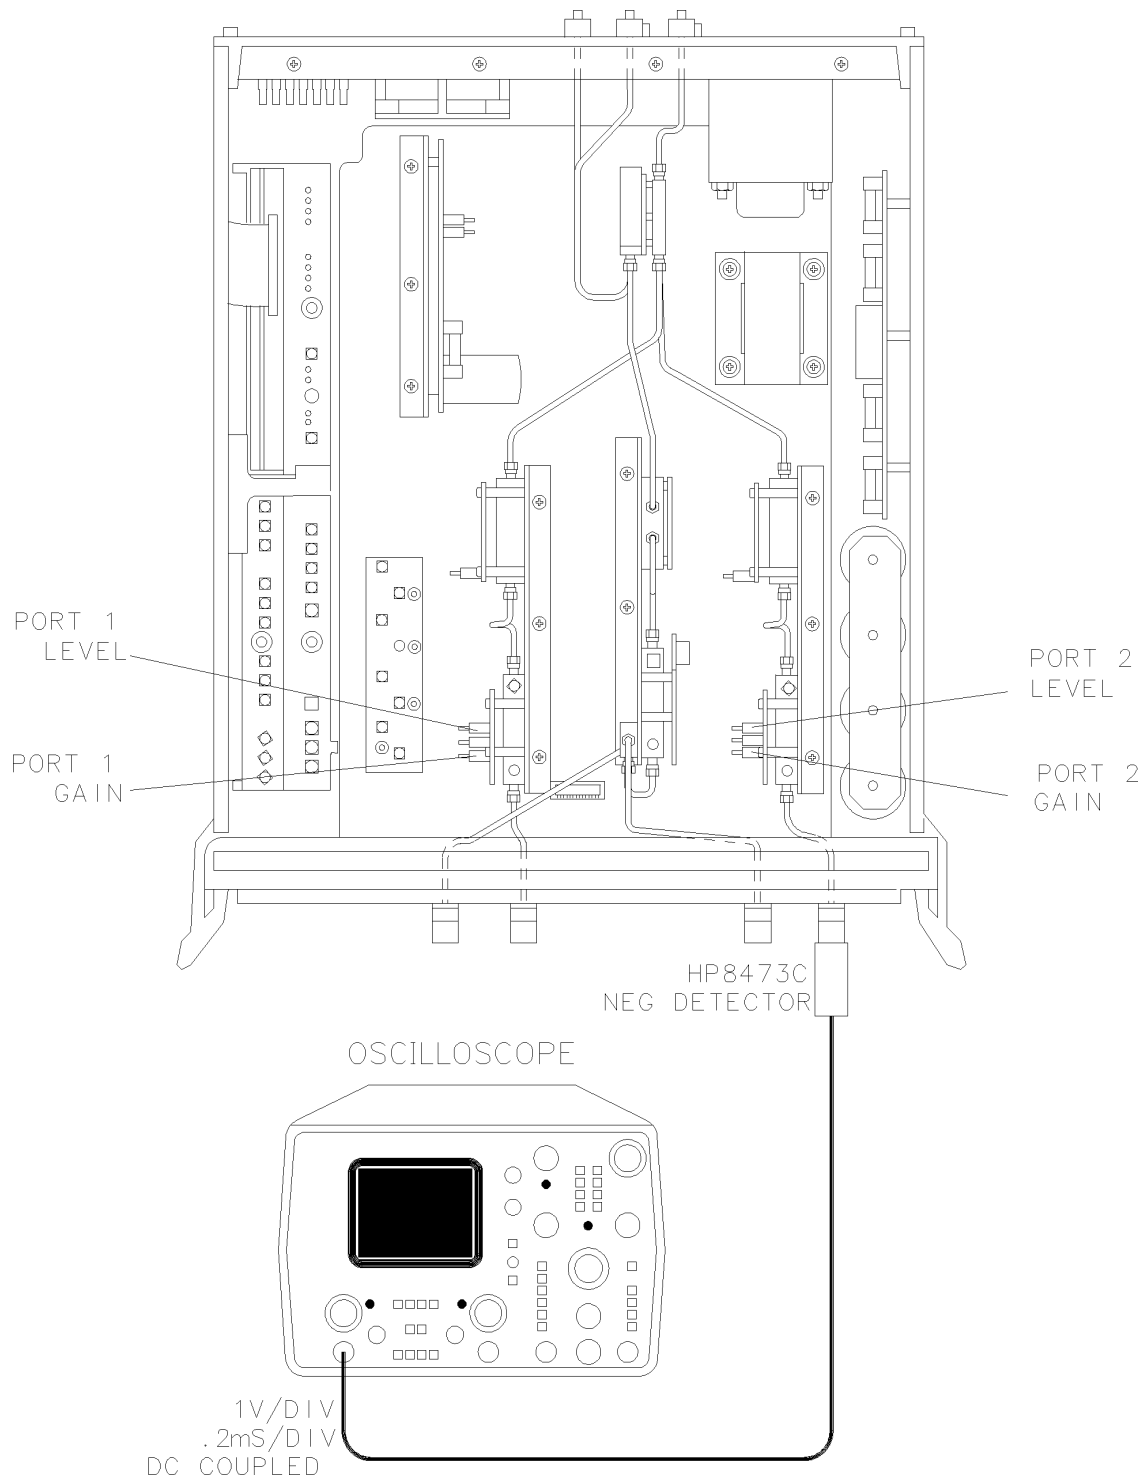

Figure 6-16 LO ALC Adjustment Points
3. Connect the oscilloscope and negative detector as shown in Figure 6-16 on page 6-32. Turn the gain adjustment fully clockwise. Oscillations should be visible on the oscilloscope. Turn the gain adjustment counter clockwise until the oscillations just disappear. Recheck the user parameters in step 2 and then continue with step 4.